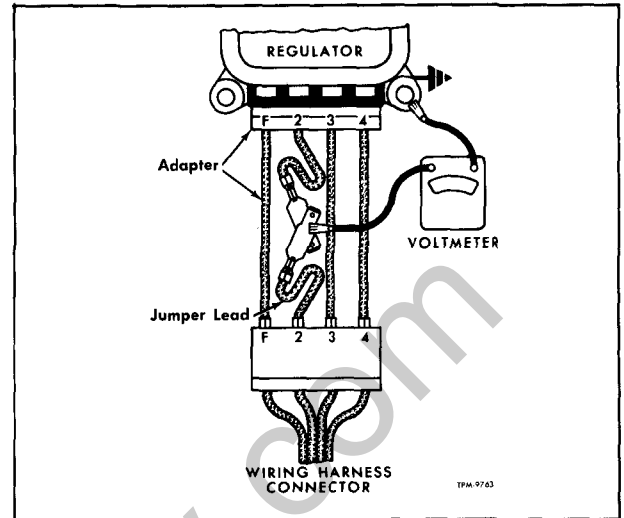

Figure 10—Testing Regulator Field Relay
1. Make connections at regulator and connector terminals as shown in figure 10.